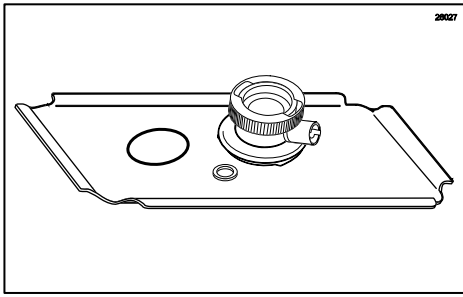

Figure 93
- Remove the o-rings and Injector Head and place them on a sanitary tray to dry. (See Figure 93.)